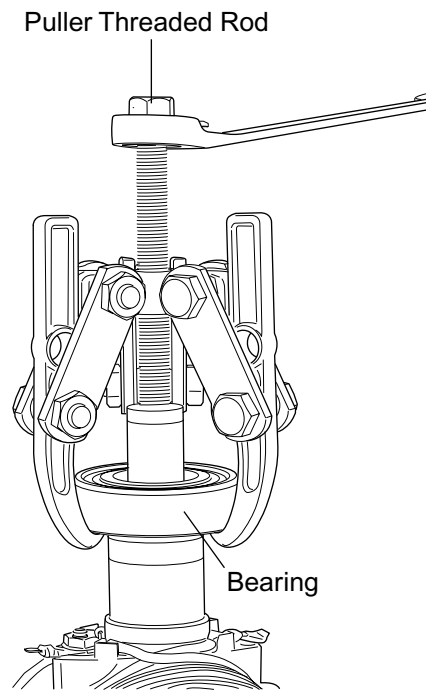

Figure 29: Bearing Puller in Use
- (2) Install a three-jaw gear or bearing puller on the rotor shaft. Make sure all three jaws are under the outer race of the bearing (refer to Figure 29).
- (3) Rotate the threaded rod of the bearing puller and remove the bearing (3) from the rotor shaft (2).
- (4) Pre-heat an oven to $350^{\circ} \pm 25^{\circ}$ Fahrenheit. Place the replacement bearing (3) in the oven for 30 minutes.